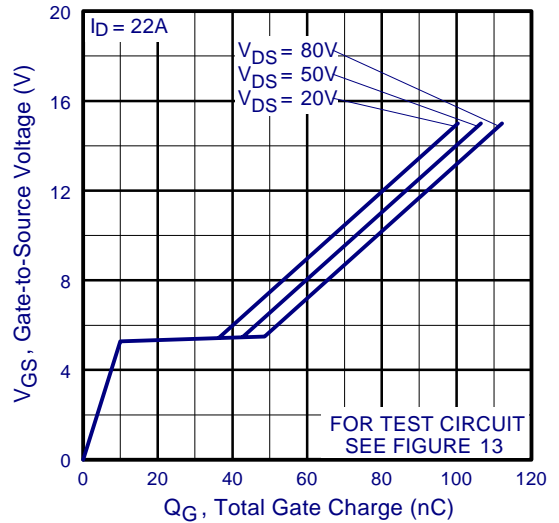

Fig 6. Typical Gate Charge Vs. Gate-to-Source Voltage
| Q_{gd} | Gate-to-Drain ("Miller") Charge | — | — | 58 | | $V_{GS} = 10V$, See Fig. 6 and 13 ④ ⑤ |